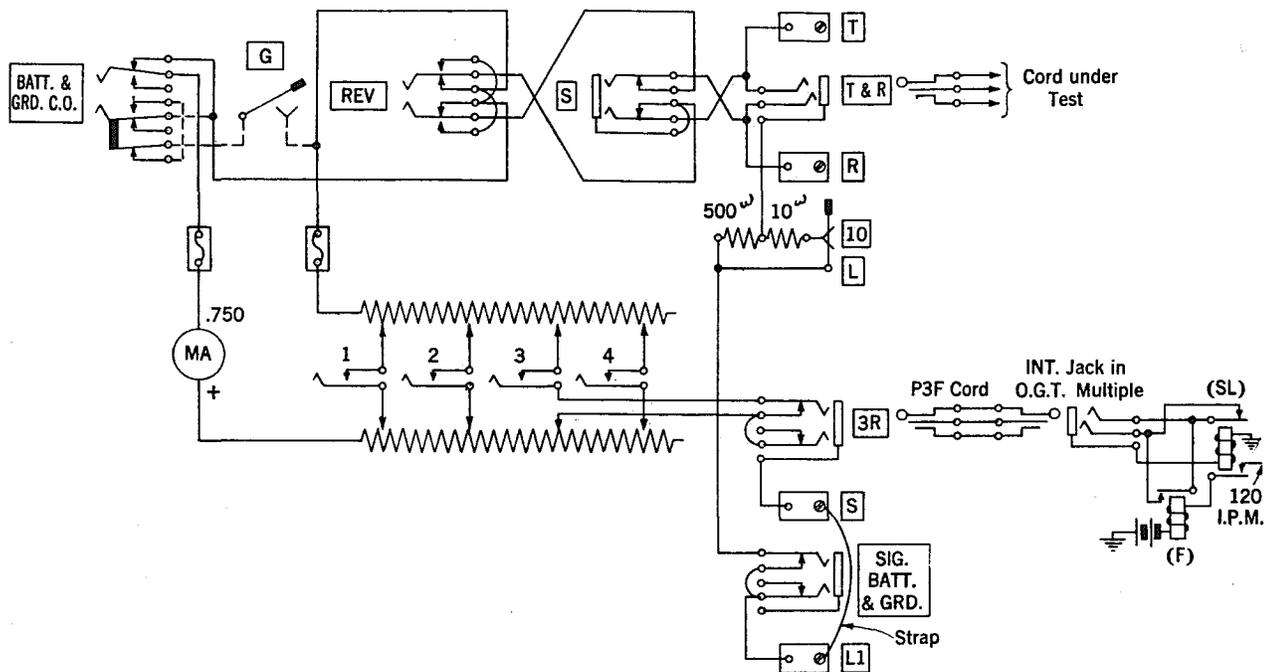

Fig. 2 - Flashing Test Using Interrupter Circuit.
3.04 If the interrupter circuit is to be used, connect the 3R jack of the test set to the interrupter circuit jack in the switchboard with a P3F cord. See Fig. 2.